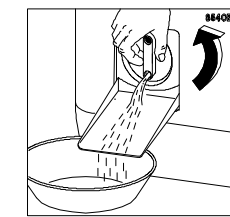

fig.7
- To drain the residual water : Place a shallow container beneath the flapdoor. Turn the filter handle anticlockwise until the filter cap handle is vertical, any residual water will be released (fig.7).